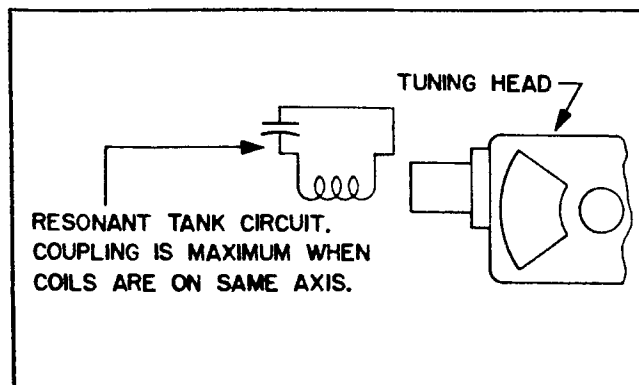
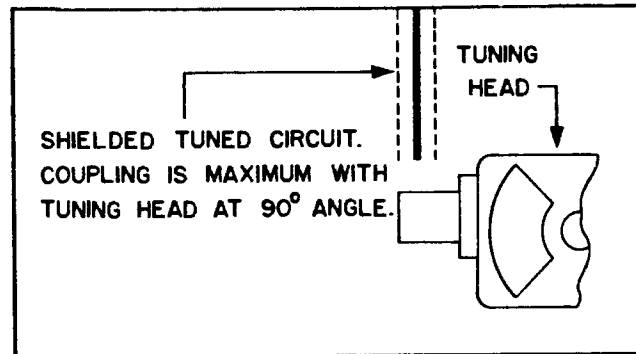

Figure 2-2. Magnetic Coupling
Figure 2-3. Capacitive Coupling
2-6. In grid-dip operation the test oscillator set may be used to determine the resonant frequency of unenergized tuned circuits. Using the tuning head as a probe while turning the "TUNING" knob (4, figure 2-1) bring the oscillator coil assembly close to the circuit. Magnetic coupling is maximum when the coils are on the same axis. (See figure 2-2.) Capacitive coupling may be used when a circuit is semi-shielded. Hold the oscillator coil assembly across the open end of a shielded cavity or across the end of a radio frequency output cord to secure coupling. (See figure 2-3.)
c. Put "OSC.-DIODE" switch (2) in "OSC." position.
d. Put "MOD.-CW" switch (3) in "CW" position.
e. Plug high impedance headset into "PHONES" jack (7).
g. Use tuning head as probe while turning "TUNING" knob (4).
h. Arrange coupling either as shown in figure 2-2 or figure 2-3.
- c. Put "OSC.-DIODE" switch (2) in "DIODE" position.
- d. Turn "METER ADJUST" knob (5) fully clockwise.
- f. Arrange coupling either as shown in figure 2-2 or figure 2-3.